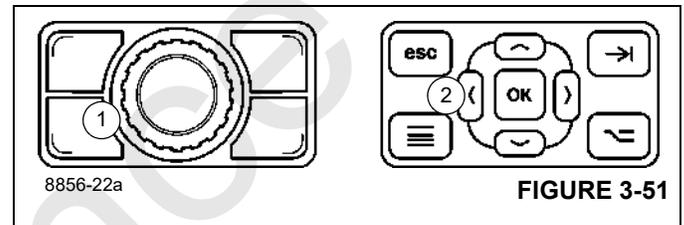

FIGURE 3-51
If the instruction given in this section is to “Press the button once...”, for instance, this always refers to the button (1), (Figure 3-51) also known as the Jog Dial or (2), (Figure 3-51). This is the case if a menu is opened or a function is to be carried out.
Buttons (1), (Figure 3-51) and (2), (Figure 3-51) denote that the active menu can change displays by either using the Jog Dial (1), (Figure 3-51) or by using the lower left Button on EITHER display (Figure 3-51).